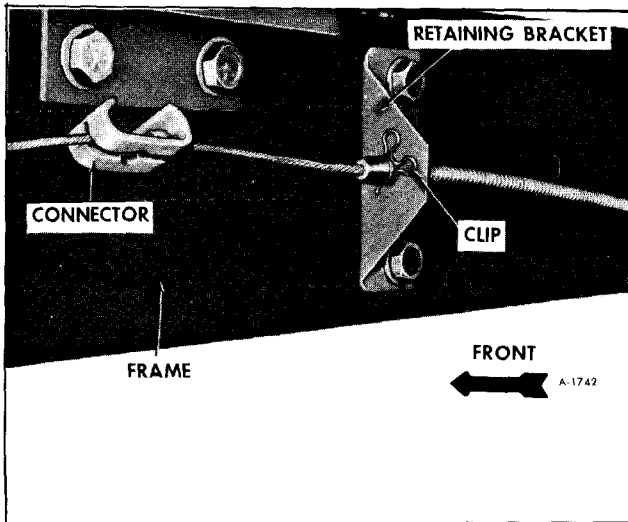

Figure 28—Clip on Frame Rail Retaining Bracket
2. Pull wire clips at retainers on frame rails (See figure 28).